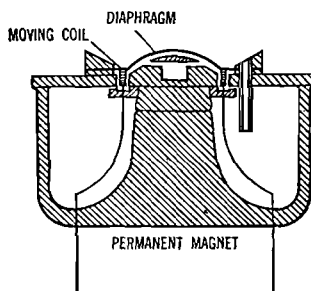

Fig. 40.5a. A moving coil microphone of the type used in a public-address system or in a radio broadcasting station.
*The Microphone.* The microphone which is used in a public-address system or in a radio broadcasting station must be one which will aid in careful reproduction of tone quality. One type which may be used contains a permanent magnet, a sensitive diaphragm, and a small coil of wire, as shown in Figure 40.5a. As the diaphragm vibrates, it causes the small coil of wire which is fastened to it to move back and forth in the strong magnetic